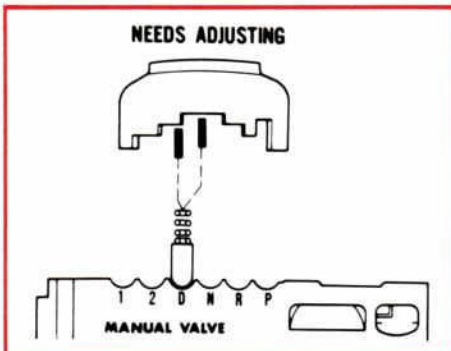

Figure 25—Incorrect Positions of the Selector Pawl in the "Drive" Range.
- If the pawl is positioned up on the drive gate stop or away from the stop as shown in Figure 25, the manual linkage will have to be adjusted at the transmission shift lever.